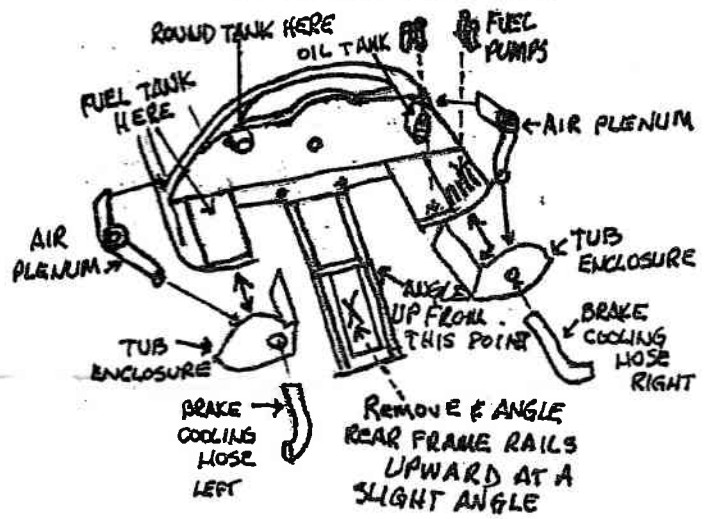

FIG. 2
4. Remove the transaxle sump cover from the rear of the chassis (marked with an "X" in Fig. 2).
The exhaust heat shields can be installed after the triangular fasteners are glued in place (3 each side, Fig. 3). The triangulated chassis braces fit next to each side of the engine block, under the exhaust headers, between the bulkhead and the transaxle crossmember, the upper portion angling outward. The taller end faces the bulkhead. The fuel tank fits to the left side of the tub, the filler tube lining up with the opening in the body. (Fig.2) See Fig. 2 for location of the 2 fuel pumps. The pump with the baseplate fastens to the inside of the lower body side panels between the third and fourth slots (counting from the top). Glue the tub enclosures in place. The air plenums fit into the openings between the bodywork and the bulkhead, the rear portions plugging into the openings in the tub enclosures (Fig. 2). The brake cooling hoses (marked R & L) fit into these same openings and sit up next to the brake rotors. The shifter linkage fits to the end of the gearchange box and into the hole in the bulkhead. Brass rod is provided for the upper radius rods and locates between the pickup points on the hubs and bulkhead.